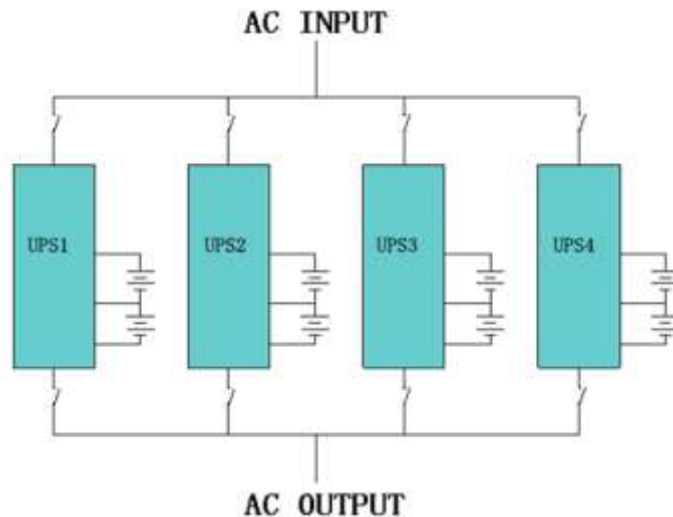

Fig. 4-1 Parallel connection
- 2) Connect all the outputs of the parallel UPS using individual breakers to one patch board before connect to the loads. See the Fig. 4-1 as follows.
- ① Working mode: set as Parallel operation (PAL);
- ② Parallel ID: set different UPS ID one by one;
- ③ Parallel amount: set the amount of UPS in parallel.